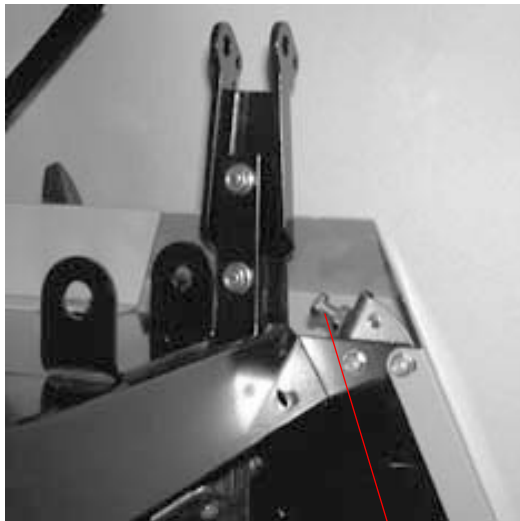

Figure. 10
4. If uneven tracking persists, adjust as follows. (see Fig. 10)